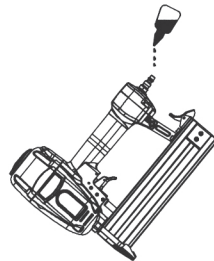

Figure 2
1. Determine if the tool needs oil and, if necessary, place two drops of oil in the AIR PLUG (86) as shown in Figure 2. If you are using an automatic in-line oiler, check and add oil if necessary.